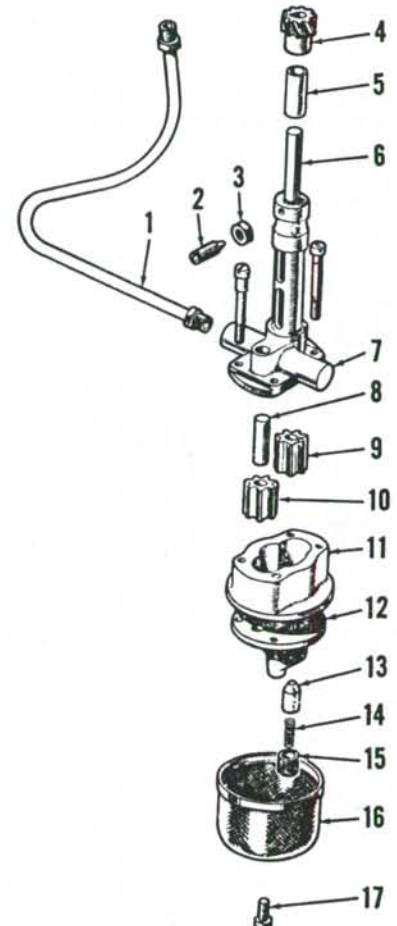

Fig. 99—Exploded view of oil pump used on four-cylinder engine showing component parts and their relative positions.
122. OVERHAUL. Disassembly of oil pump is obvious after examination of unit and reference to Fig. 99. Use a suitable puller to remove spiral gear (4) and driven gear (9) from drive shaft (6). Note number of turns required to remove relief valve adjusting screw (15) so it can be reinstalled to original setting.
To reassemble, press idler shaft (8—Fig. 99) into bracket (7) until seated. Install shaft (6) and gears (9 and 10). Press spiral gear (4) onto shaft (6) leaving 0.25 mm (0.010 inch) end play. Use a feeler gage between face of spiral gear shoulder and top edge of bracket (7) to measure end play. Install bolts and pump body (11). Using a feeler gage inserted between mating gear teeth, measure backlash. Backlash should be 0.51-0.66 mm (0.020-0.026 inch). Measure gear side clearance using a feeler gage inserted between gear body (11) and outer edge of pump gears. Side clearance should be 0.025-0.050 mm (0.001-0.002 inch). Place "Plastigage" on face of pump gears as shown in Fig. 98. Install pump cover (12) and tighten bolts to 12-15 N·m (9-11 ft.-lbs.) torque. Remove cover (12) and check clearance. Clearance should be 0.025-0.089 mm (0.001-0.0035 inch). Reinstall cover and tighten bolts to 12-15 N·m (9-11 ft.-lbs.) torque.
Install relief valve plunger (13—Fig. 99), spring (14) and adjusting screw (15). Turn adjusting screw in same number of turns as noted during disassembly. One full turn of adjusting screw will result in 41 kPa (6 psi) change in pressure. Top of screw (15) must be below flange for pickup screen mounting bolt.